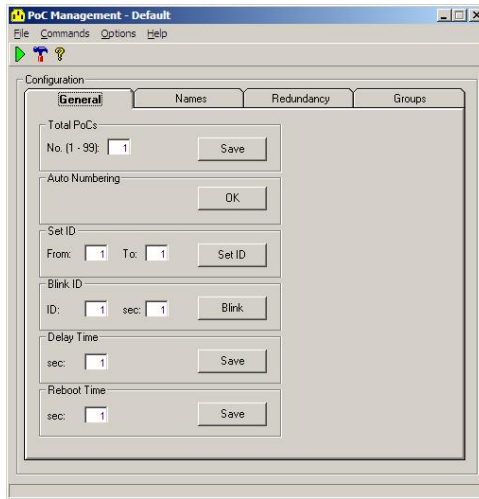

Figure 9 General tab
4. Click Commands/Configuration or  the General tab appears, see Figure 9.